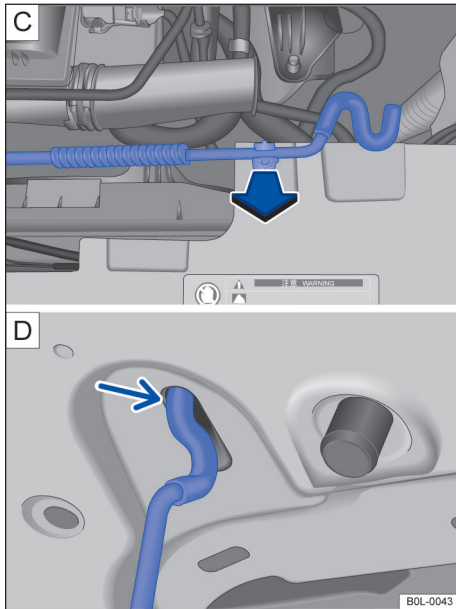

Fig. 134 C In the engine compartment: bonnet stay in the holder; D On the bonnet: holder for bonnet stay
- Take the bonnet stay out of its holder in the direction of arrow → Fig. 134 C and insert it into the opening → Fig. 134 D (Arrow).
- Unhook the bonnet stay from the opening and push it into its holder → Fig. 134 C.